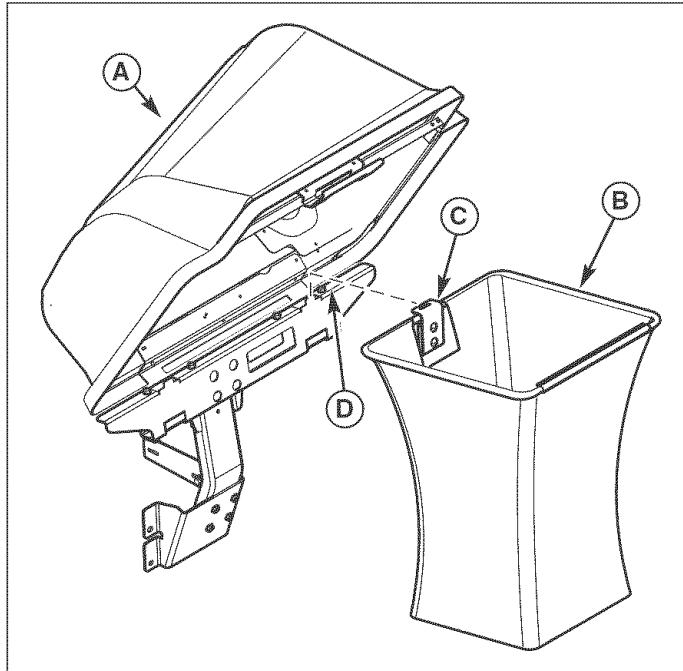

Figure 5. Install Collector Bags
1. Raise the cover (A, Figure 5).
2. Attach collector bags (B) using grass bag hanger (C) to bag hanger post (D).